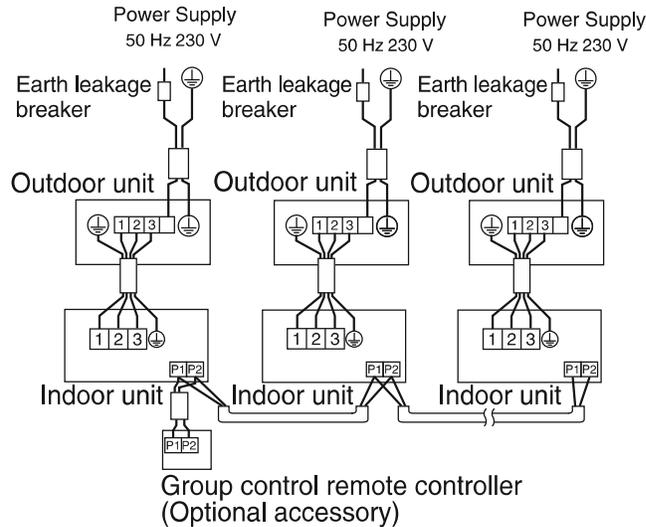

Fig. 31
- **Group control:** 1 remote controller controls up to 16 indoor units. (All indoor units operate according to the remote controller) **(Refer to Fig. 31)**